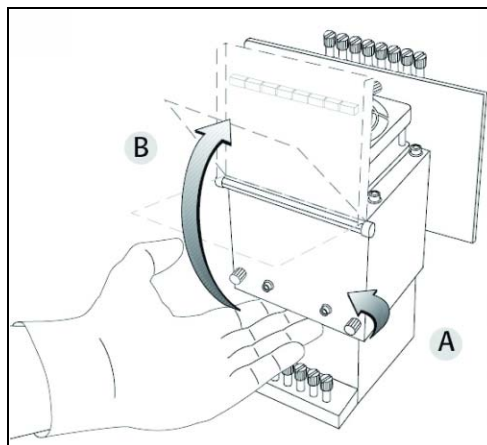

Figure 7-41: Opening the print-head compartment
- Open the print head compartment (see figure 7-41 on page 30).